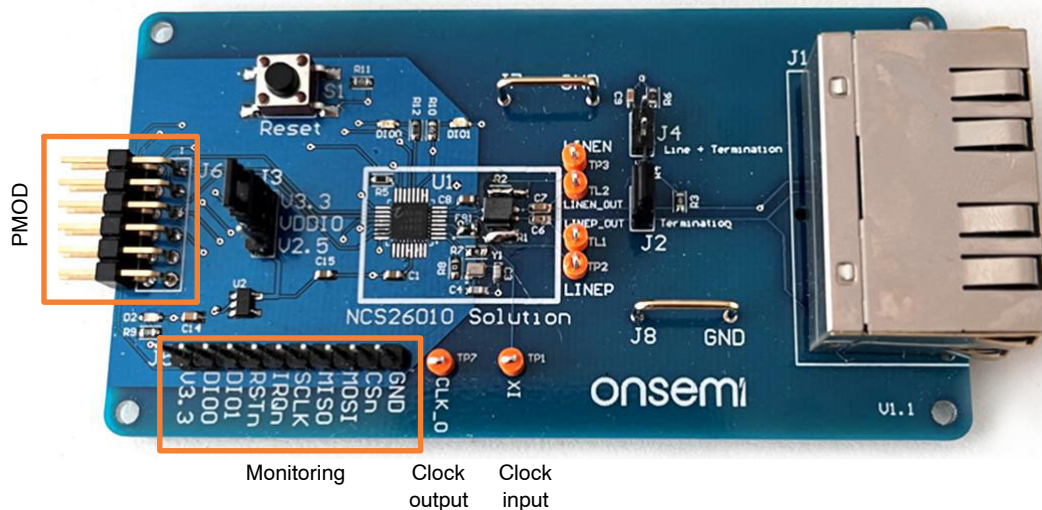
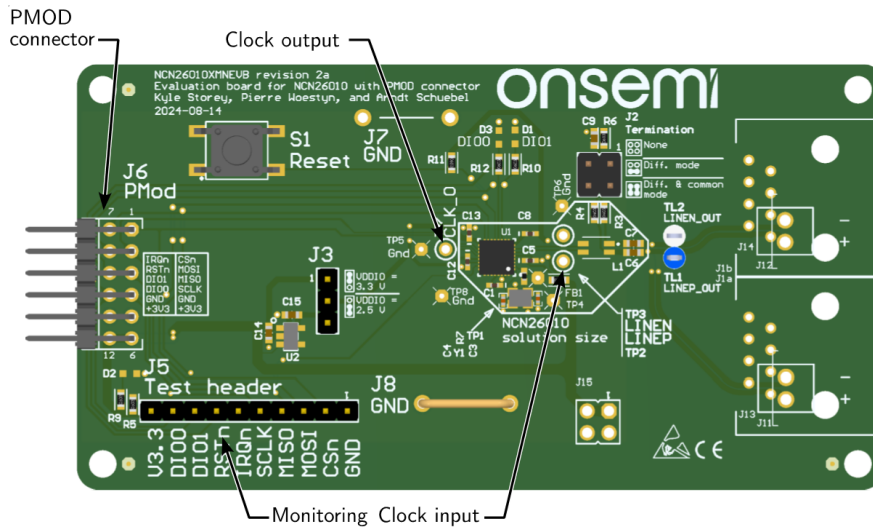
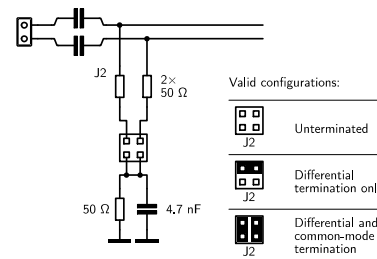
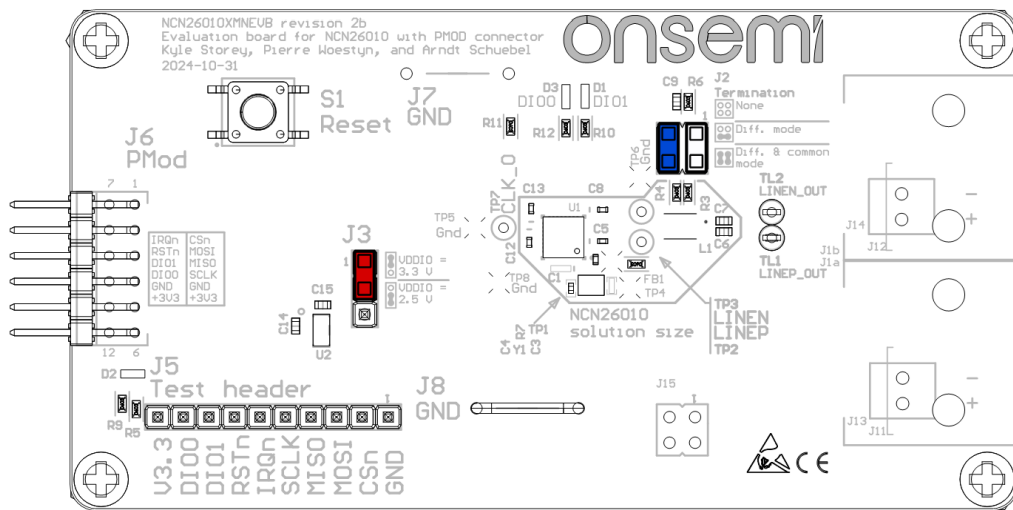

Figure 4. Evaluation Board, Revision 1
Figure 5. Evaluation Board, Revision 2
Figure 11. Termination on Revision-2 Boards
Figure 20. Placement of Jumpers after Manufacturing (Revision-2 Board Shown)
The top view of the EVB is shown in Figure 4 (revision 1) and Figure 5 (revision 2):
On revision-2 boards, the termination network is behind the capacitors and can be safely used together with PoDL (Figure 11). The jumpers are now arranged differently. First, the equivalent of J2 is placed behind the 50 Ω resistor to lower the capacitive loading on the bus. Secondly, a 2x2 pin header is used to allow for complete symmetry. Place the jumpers as indicated in Figure 11 or as shown on the silkscreen (Figure 5).
7. Place two jumpers on J2 for differential and common-mode termination. For revision-2 boards, refer to Figure 20 (see also Figure 11).
8. Place one jumper on J3 for 3.3 V operation, as shown in Figure 20.